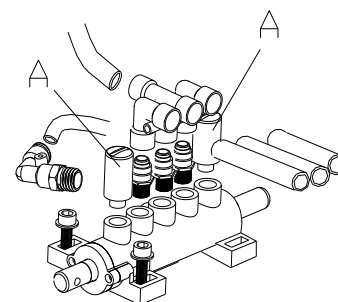

Fig 22
2. Loosen the valve mufflers (A) which belong to Jaws open and close Pedal and Bead Breaker Pedal;
3. Clean the mufflers with compressed air, please replace it referring to the spare parts list if it is damaged. (Fig 22)